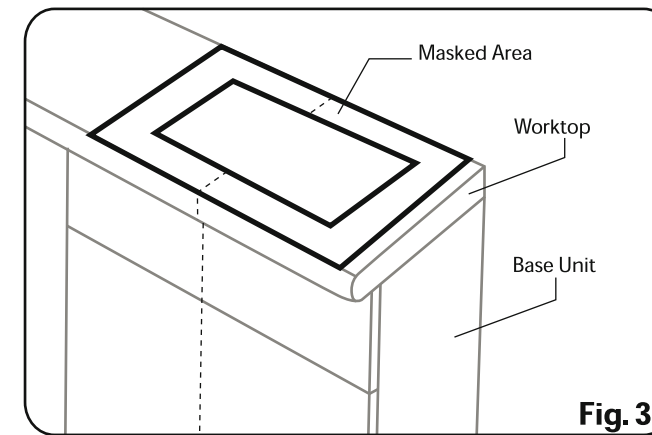

Fig. 3
6. Using masking tape mask beneath the template edges on the worktop (See Fig. 3). Then trace around the template outline onto the masking tape.